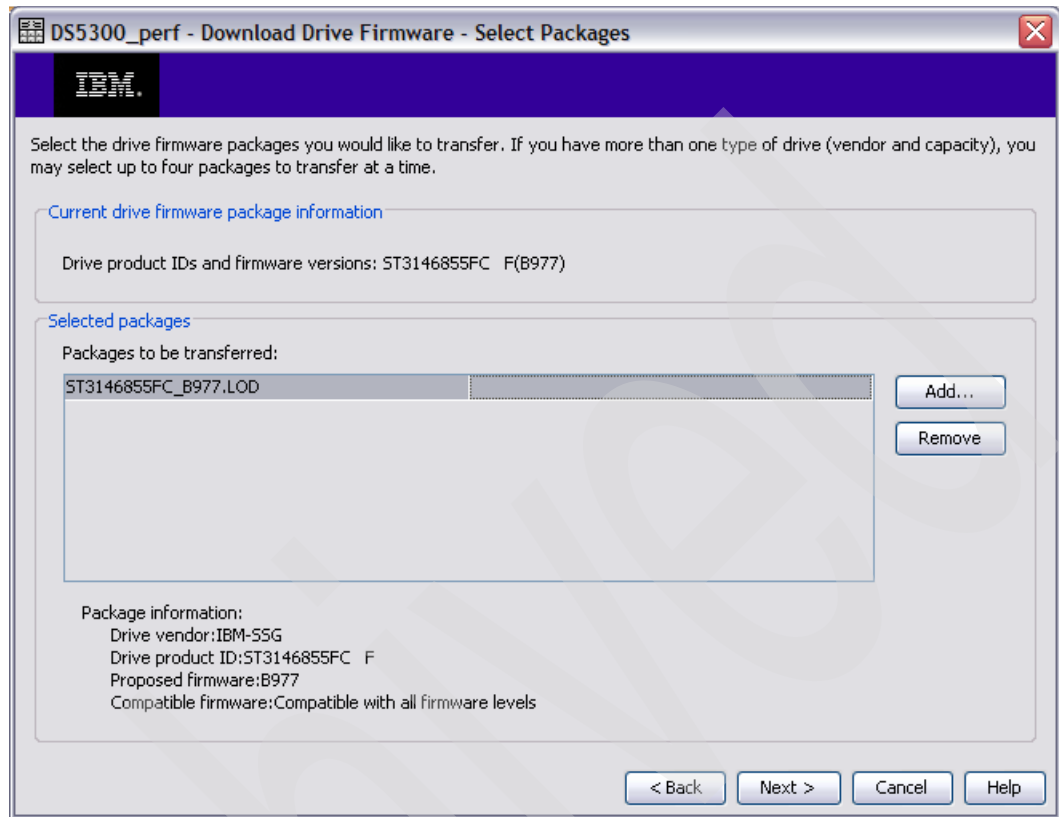

Figure 7-26 Adding drive firmware packages
5. You can select more drive firmware (see Figure 7-26) if you have different drives in enclosures.